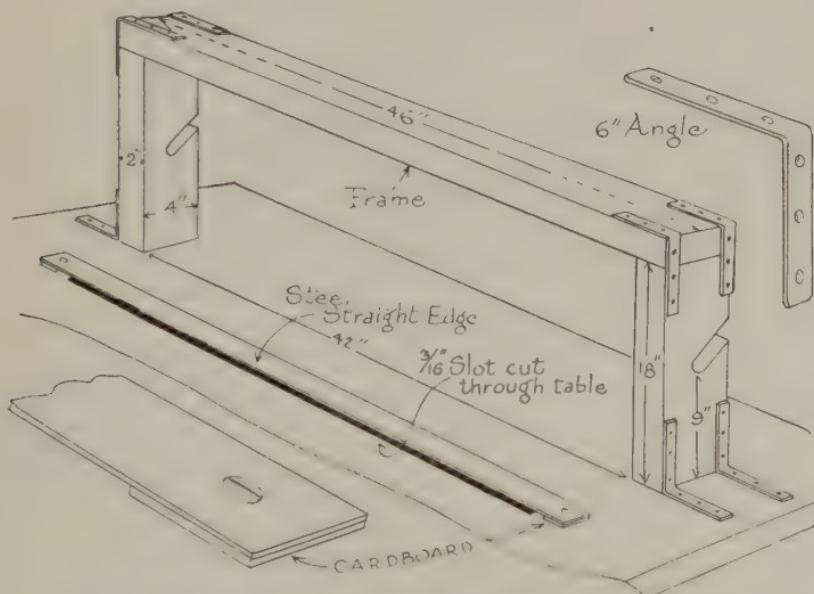

FIG. 93—CONSTRUCTION DIAGRAM OF FRAME, CORNER IRONS,
2. The two uprights should be 18" long, and spaced 42" apart; the top piece nailed securely to the two uprights and reinforced with 1" wide iron straps bent at right angles, drilled and countersunk for screws, each angle 6" long. (Fig. 93.)
3. Before erecting cut two diagonal slots on the *outer* edge of the two uprights with centers 9" from table, slots $\frac{1}{2}$ " across (to take $\frac{1}{2}$ " steel rod). (Fig. 93.)
8. Assemble and erect rack at far side (or at end of table if table is wide enough for 50" area needed for rack). (Fig. 93.)